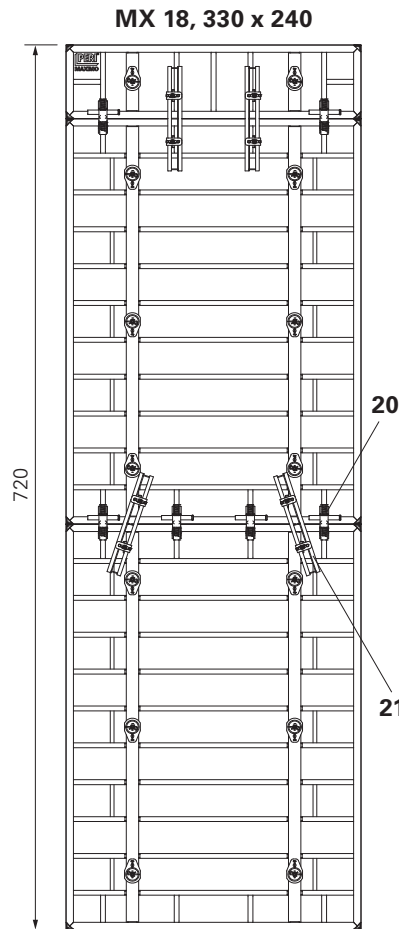

Fig. C8.03a
For extension units $H > 6.00$ m and $H \leq 7.20$ m, Alignment Couplers BFD (20) and Compensation Walers MAR 85 (21) are to be used on panel joints. (Fig. C8.03a + C8.03b)